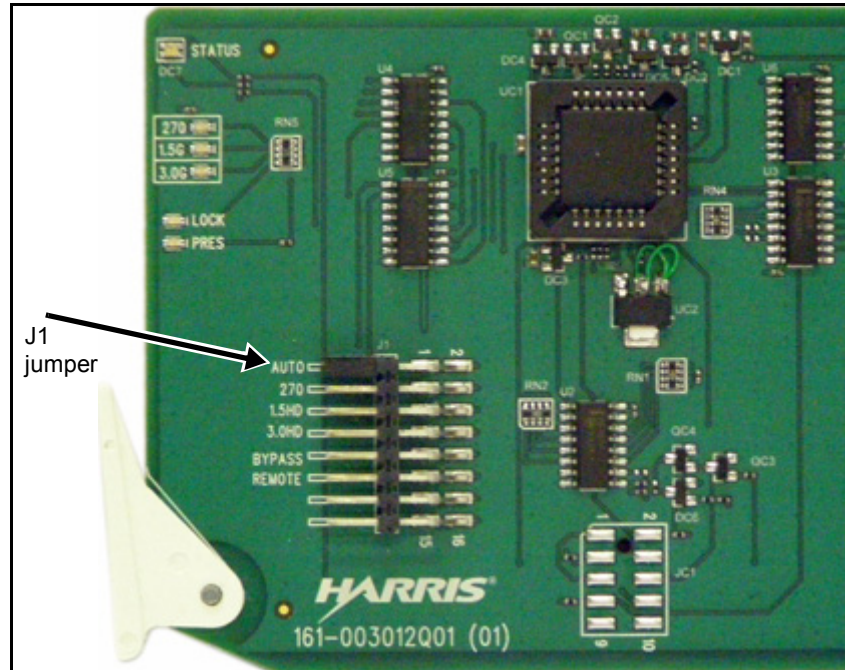

Figure 2-1. J1 Jumper Set Locations
1. Locate the J1 jumper set on the module. Figure 2-1 shows the standard location of the jumper set.